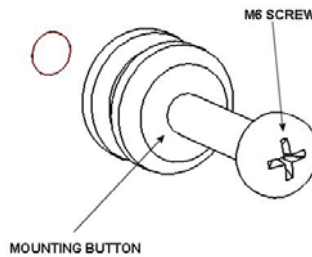
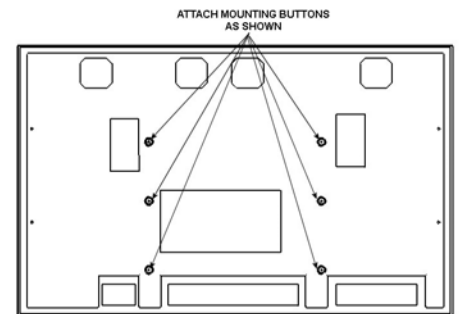

Figure 4
Figure 5
2. Attach mounting buttons to plasma using six M6 x 25 cap screws (see Figure 4 and Figure 5).
5. With the aid of another person, lift the display up to the mount, align the mounting buttons on the plasma with the teardrop slots in the mount, and set the display into place (see Figure 5).